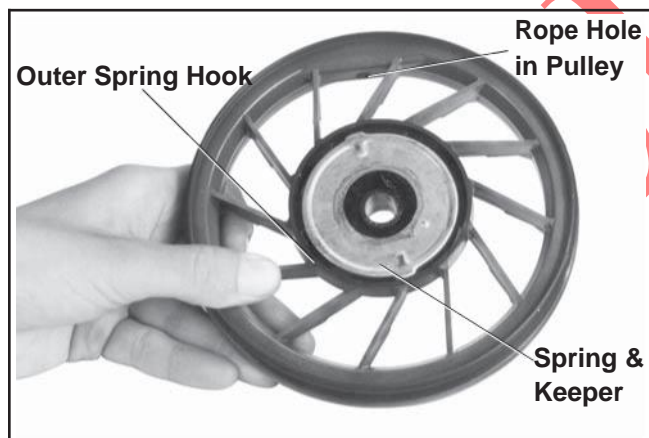

Figure 7-8. Position of Spring and Keeper in Pulley.
8. Note the position of the spring and keeper assembly in the pulley. See Figure 7-8.
1. Make sure the spring is well lubricated with grease. Place the spring and keeper assembly inside the pulley (with spring toward pulley). See Figure 7-8.